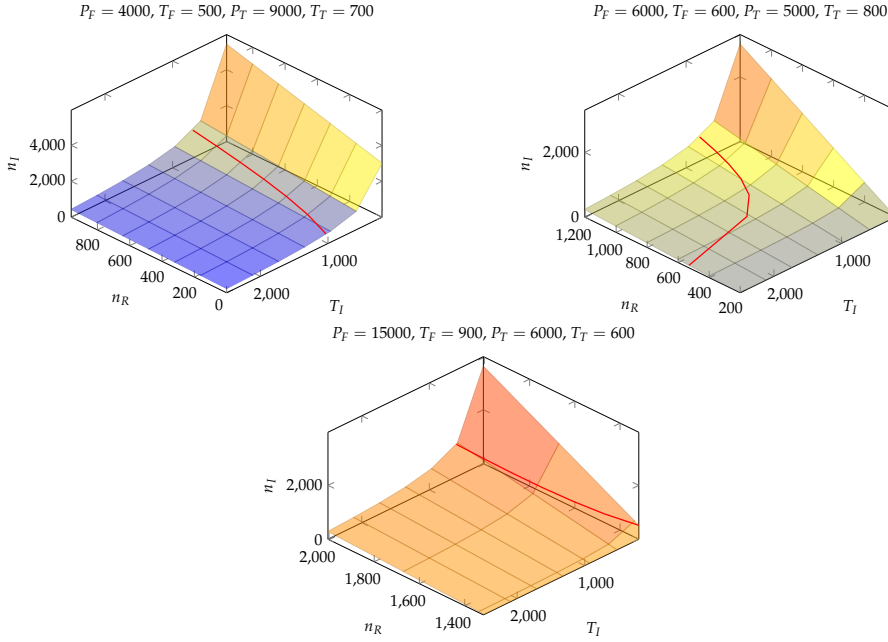

Figure 5: The curve in red defined by  $(n_R, g, f)$  embedded within the surface defined by  $(n_R, T_I, f)$  (for the same various initial conditions).
Effectively, we've reduced our previously two dimensional surface down to a one dimensional *curve* (a curve which is embedded within the surface, with the surface embedded within three dimensional space). And again we can plot this; see fig. 5 in which we can see the curve embedded within the surface.
*Example.* Lets consider the third example of fig. 5, where our initial conditions are  $P_F = 15000$  and  $T_F = 900$ , and target conditions are  $P_T = 6000$  and  $T_T = 600$ .
As the example above demonstrates, we're not actually done. We've solved for all real-solutions to the problem, but we've neglected the bound that we cannot add a negative amount of  $C$  or  $H$ . Looking back at the third example of fig. 5, notice that the curve exits to the right of the graph. This shows us that not all values of  $n_R$  are valid for our model, because for some values (where the curve leaves the graph) we are adding a negative amount of  $C$  or  $H$ .